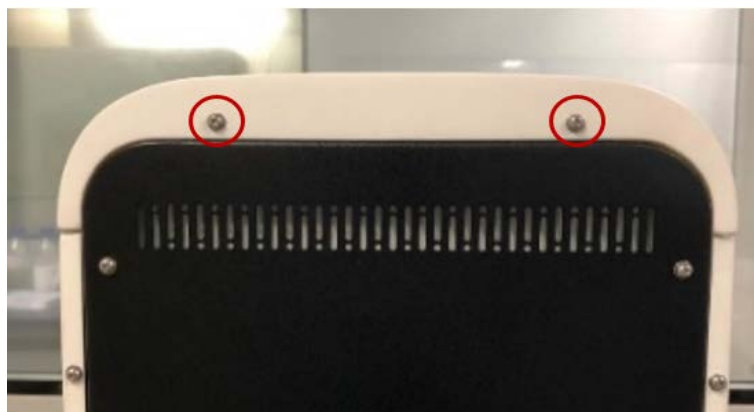

Figure 25 The "Phillips" screws on the back top of the instrument
- Remove the two "Phillips" screws (Figure 25) on the back top of the instrument.